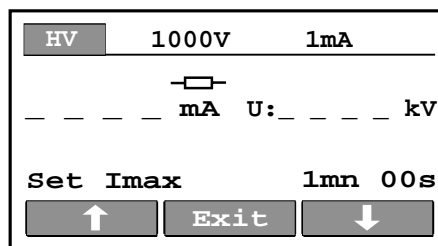

Fig. 6. Menu for selection of tripping out current
- Tripping out current (fig. 6)